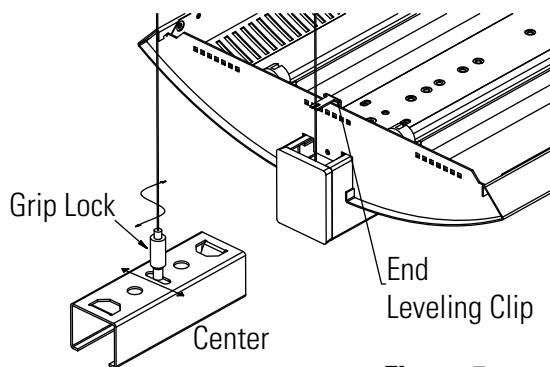

Figure 5
- While supporting the fixture, depress the nipple at the top of the cable gripper mechanism. This will allow the fixture to be moved up or down on the cable. by releasing the pressure on the nipple the gripper will then hold the cable in position. (Fig. 5)